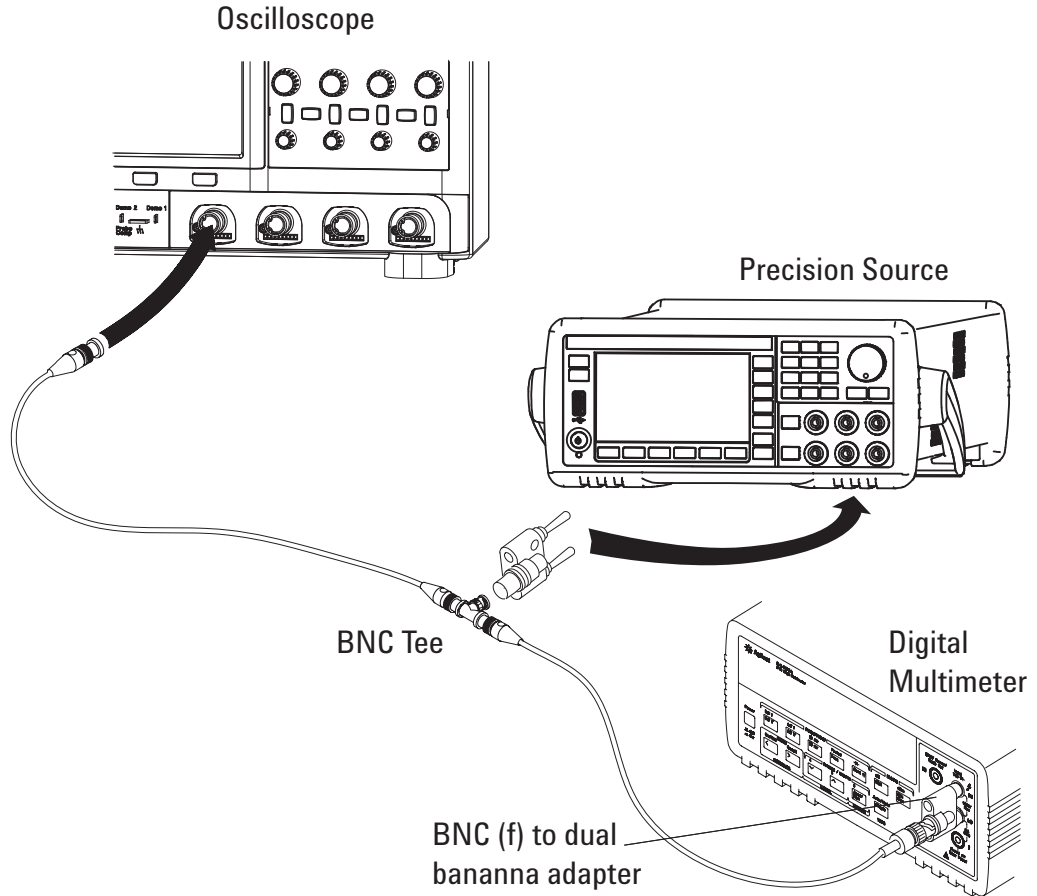

Figure 5 Setting up Equipment for Dual Cursor Accuracy Test
- 4 Use the BNC tee and cables to connect the precision source / power supply to both the oscilloscope and the multimeter (see **Figure 5**).